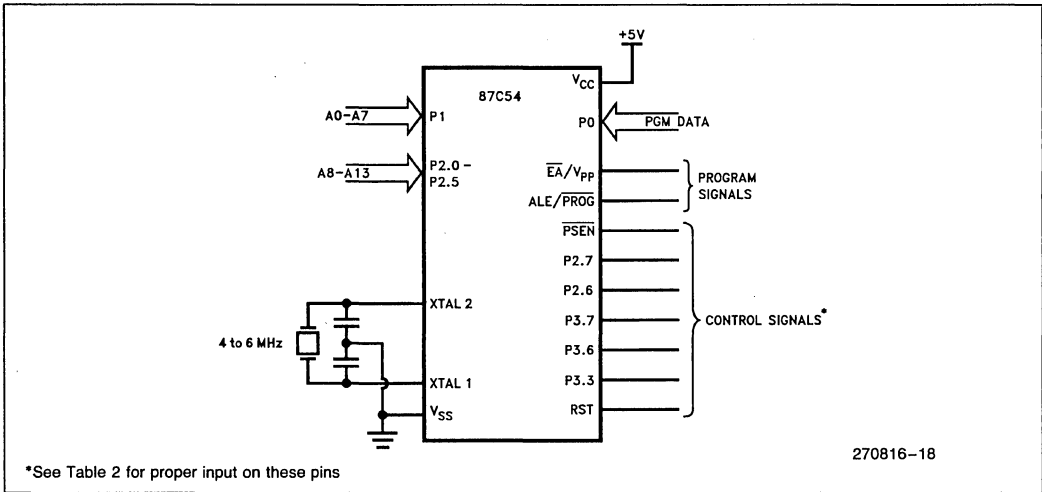

Figure 10. Programming the EPROM
Refer to Table 2 and Figures 10 and 11 for address, data, and control signals set up. To program the 87C54 the following sequence must be exercised.
5. Pin numbers deleted from Figure 10.